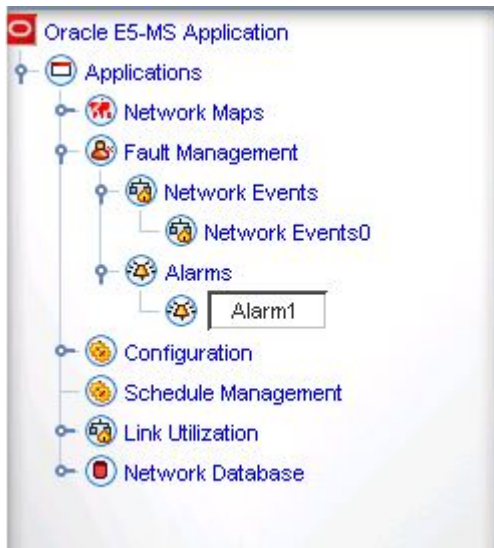

Figure 117: Entering a New Name for a Custom View
3. Type the new name for custom view as shown in Figure 117: Entering a New Name for a Custom View, and press **Enter**.